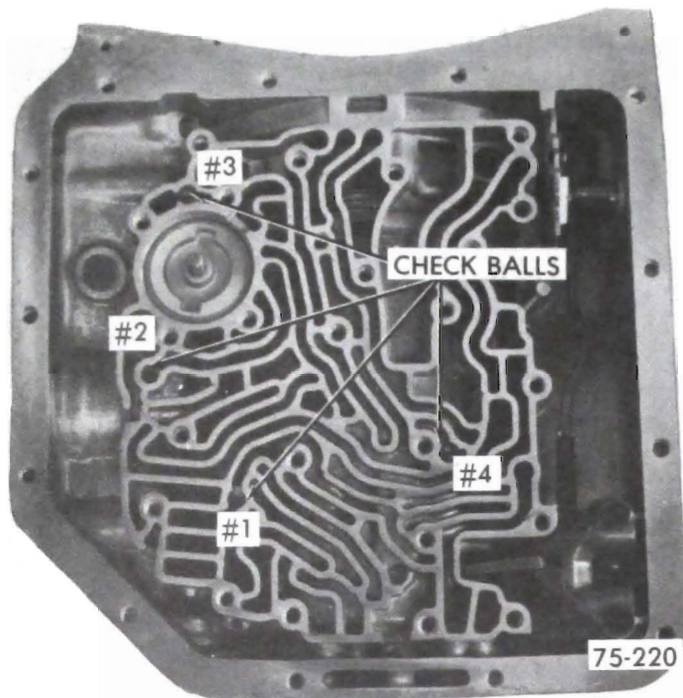

Figure 75-268
3. Install four (4) check balls into correct transmission case pockets. See Figure 75-268.